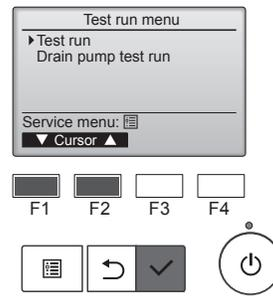

Fig. 6-4
- ④ Select "Test run" with the or button, and press the button. (Fig. 6-4)